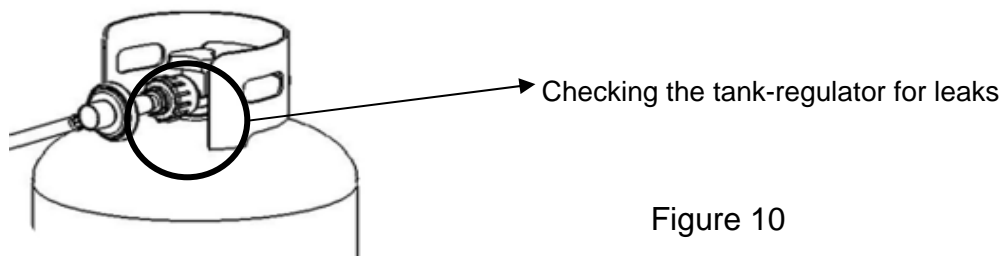

Figure 10
11. Open the tank valve. Apply a solution of soapy water to the tank-regulator connection and to the valve-hose connection to check for leaks as shown in Figure 10. If soap bubbles continue to form, the connection has a leak. If a leak is found, close the tank valve and tighten all connections.